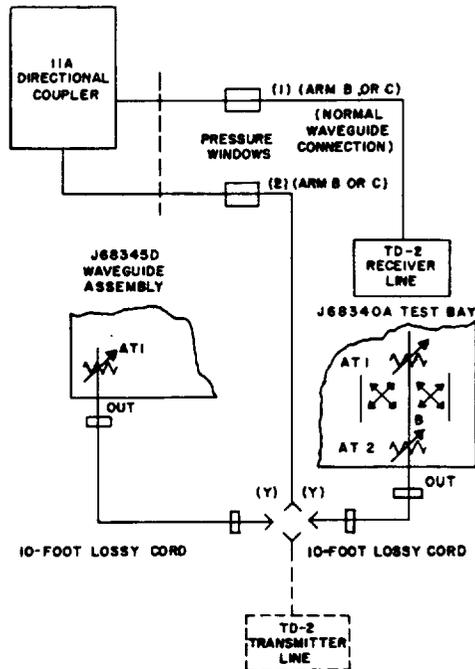

Fig. 12 - Partial Test Equipment Connections for 11A Coupler Crosstalk Measurements
- (2) The calibrated radio receiver is used as the measuring device of the crosstalk balance of the 11A coupler as shown in Fig. 12.
(2) Make the (Y) connection to the transmitter waveguide, as shown in Fig. 12. Set the attenuators to produce an RF power level into the 10-foot lossy cord of  $+15$  dbm from the test equipment — J68340A Test Bay or J68345A Test Set.